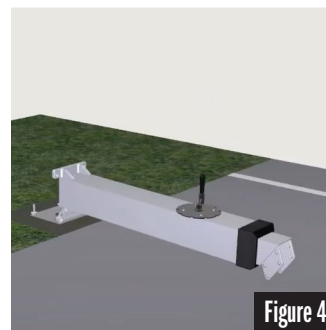

Figure 4
- Lay the Base Pole onto the court by using the pivot on the front. See Figure 4.